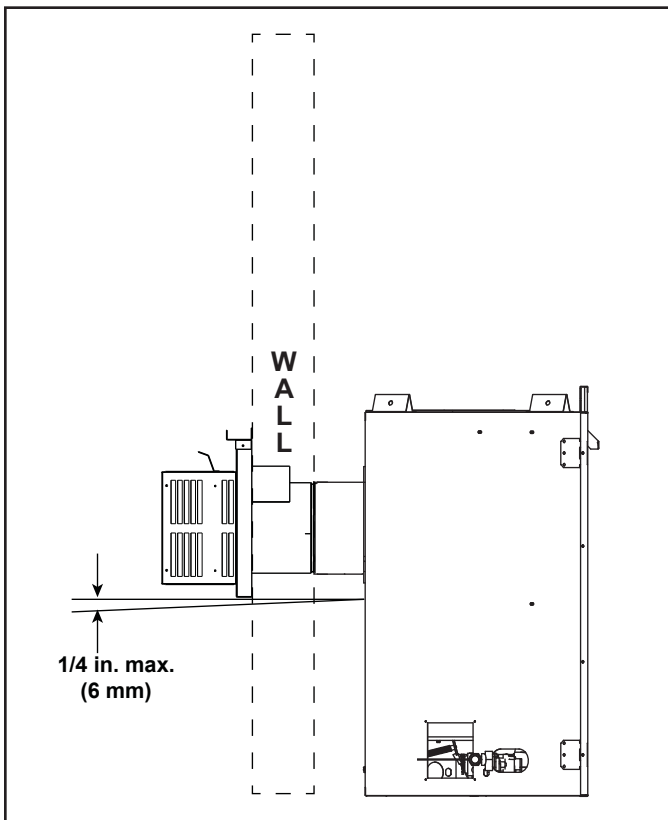

Figure 4.8 Water Infiltration Prevention Tip
- When the horizontal termination cap is exposed to high precipitation, the cap should have a 1/4 inch downward slant to allow any moisture in cap to be released. See Figure 4.8.